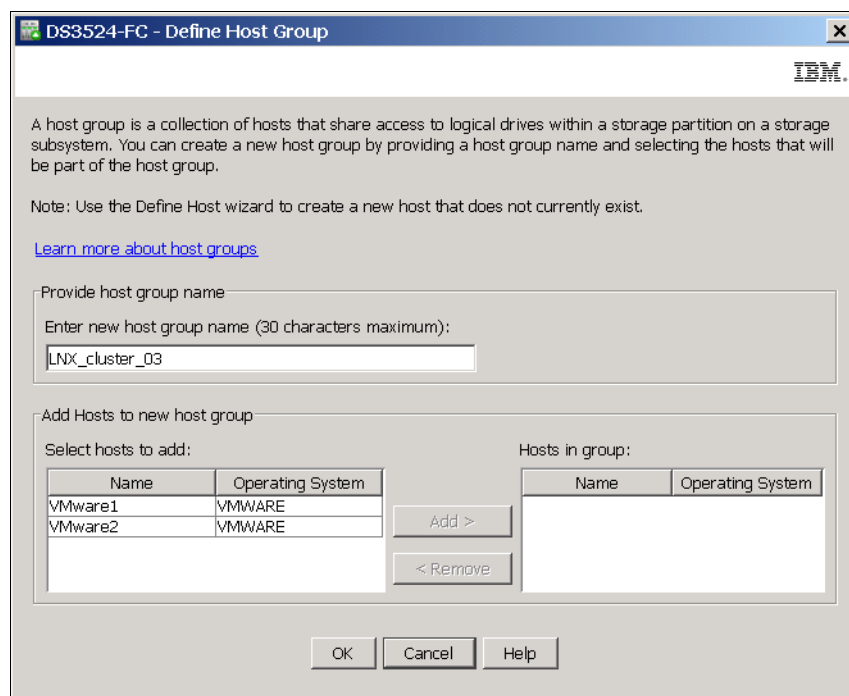

Figure 11-19 Define Host Group name
- The Define Host Group window (shown in Figure 11-19) opens. Enter the name of the host group you want to define. Select every host you want to add to the group and click **Add**. If you select no hosts to add, the host group will stay empty and you can move existing hosts into it later, or you can add a host to this empty host group during host definition. When you are done, exit the window by clicking **OK**.